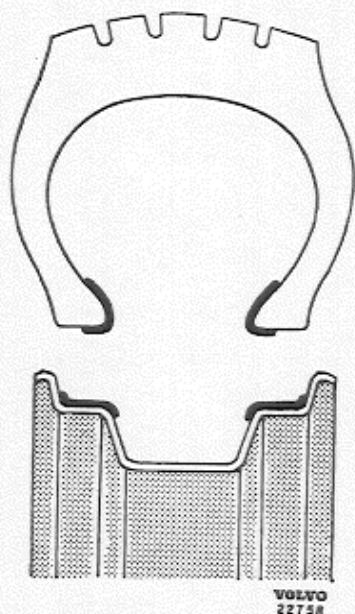

Fig. 21. Application of paste.
1. Clean the wheel rim and then smear the rim and tyre with a thin layer of special paste at the points shown in Fig. 21.